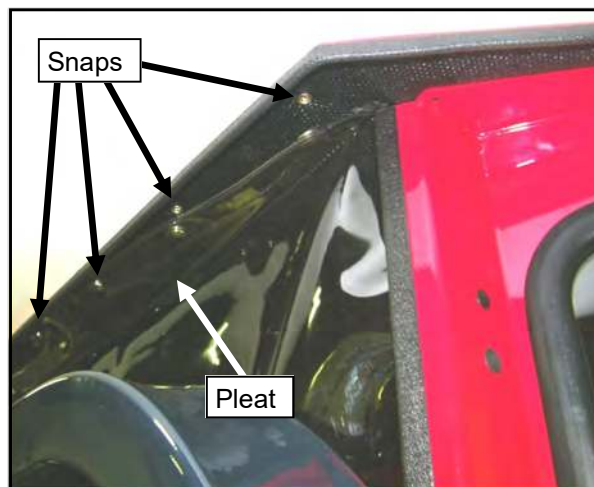

Fig. 16.1 (Vinyl Rear Curtain Installation)
16.1 Snap the supplied curtain to the back underside of the roof oriented so the upper 90 degree pleat is towards the front of the vehicle. See Fig. 16.1.